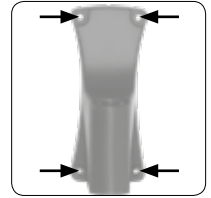

Fig. 1 Mounting Bracket
5. The wall bracket supplied has 4 x M8 holes. The masonry anchors supplied are M12 OD with M8 threads to fit into the wall bracket. If attaching to masonry, drill 4 x M12 holes to affix the masonry anchors, making sure to locate the holes in the right position to match the wall bracket. (Fig. 1)